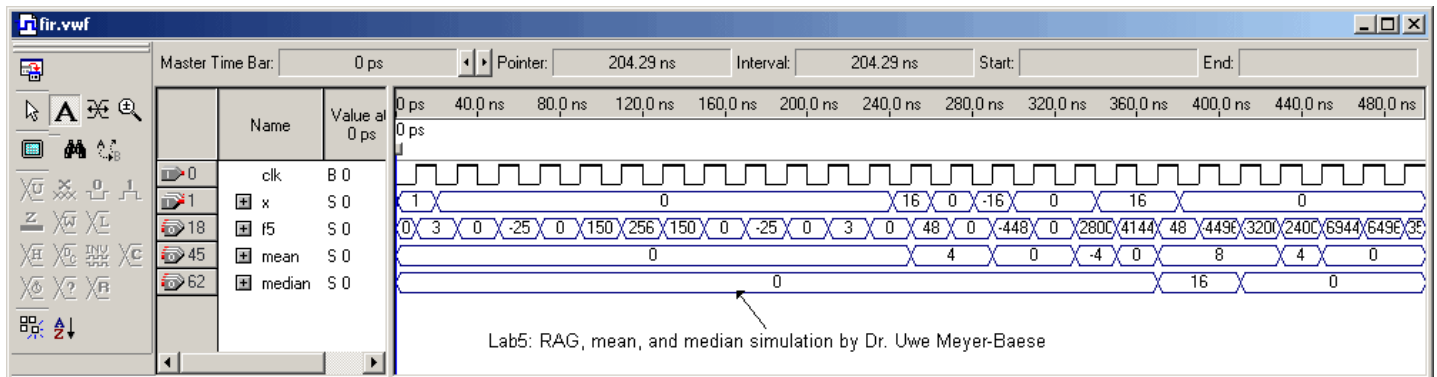

Figure 2: f5, mean and median filter simulation.
- Complete this report, print the VHDL files for `f5direct.vhd`, `fir.vhd`, and `DE2_lab5.vhd`, and the Quartus simulations for `f5direct` (see Fig. 1) and the 3 FIR filters as in Fig. 2. (7 points).